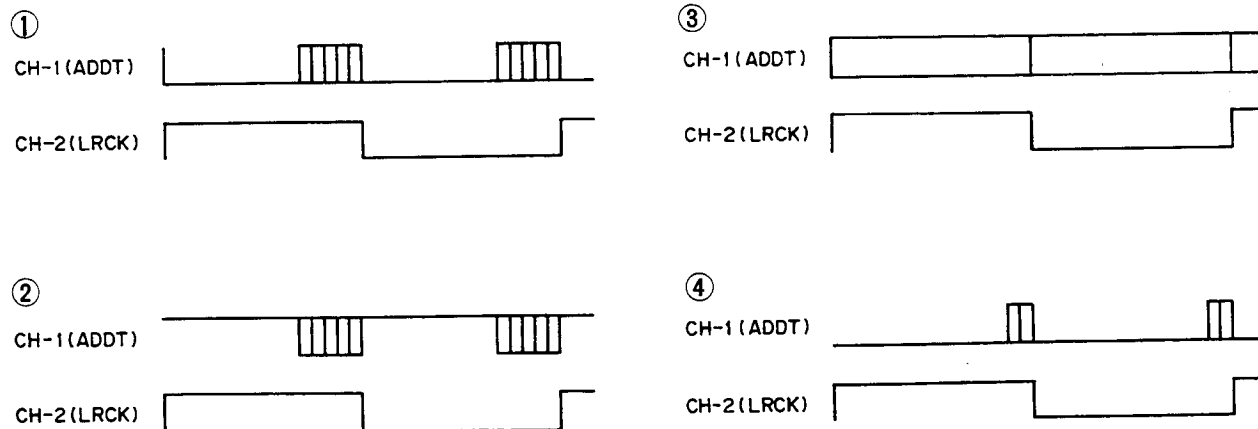

Fig. 4-11
- 4) Load the blank tape TY-30B or equivalent, then set the unit to the REC/PAUSE mode. At this time, adjust semi-fixed resistors R120 (L-channel) and R220 (R-channel) for adjusting A/D OFFSET so that the waveform at TP-3 (ADDT) is as shown in Photo 4-6 (Fig. 4-11 ④).
- 4) . TY-30B相当のブランク・テープを装着し、REC/PAUSE状態にしたときのTP-3(ADDT)の波形が、写真4-6(図4-11④)のようになるようにA/D OFFSET調整用の半固定抵抗R120(L-CH)、R220(R-CH)を調整する。
* If adjusted to +DC, the upper bits will be "L" only (Fig. 4-11 ①). Conversely, if adjusted to -DC, the upper bits will be "H" only (Fig. 4-11 ②). If adjusted exactly at 0 V, the probability of the occurrence of "L" and "H" will be equal, and the uppermost bit (most significant bit) will continuously alternate between "L" and "H" (Photo 4-7, Fig. 4-11 ③) with the result that the S/N will deteriorate and the S/N value will fluctuate. Therefore, adjust to a point where upper bits will always be "L" and the lower bits stand out least (Photo 4-6, Fig. 4-11 ④).